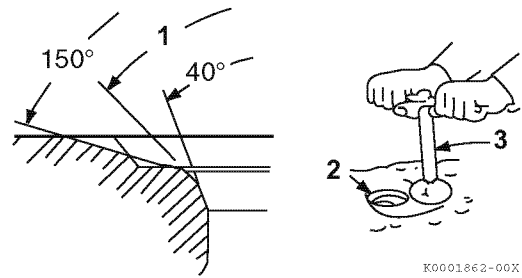

Figure 6-21
Light cutting can be performed using a hand-operated cutter (**Figure 6-21, (3)**).
Valve seat diameter can be adjusted by top-grinding with a 150° stone to make the seat diameter smaller, and bottom-grinding using a 40° stone to make the seat diameter larger. Once the seat location has been corrected, grind and lap the seat angle (**Figure 6-21, (1)**) to specification. See *Cylinder Head* on page 6-3 for the service limit.